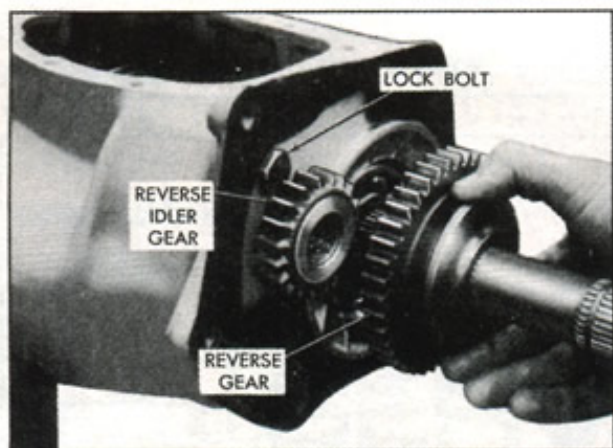

Fig. 4—Removing Reverse Gear
6. Slide the reverse gear from the mainshaft (Fig. 4).
7. Slide the rear portion of the reverse idler gear (Fig. 4) from the transmission case.
8. Remove the rear retainer lock bolt (Fig. 4).